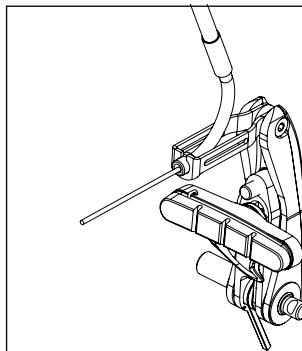

Fig. 18
- 6 / Engage the bend in the tiebar ⑩ (Fig. 18).